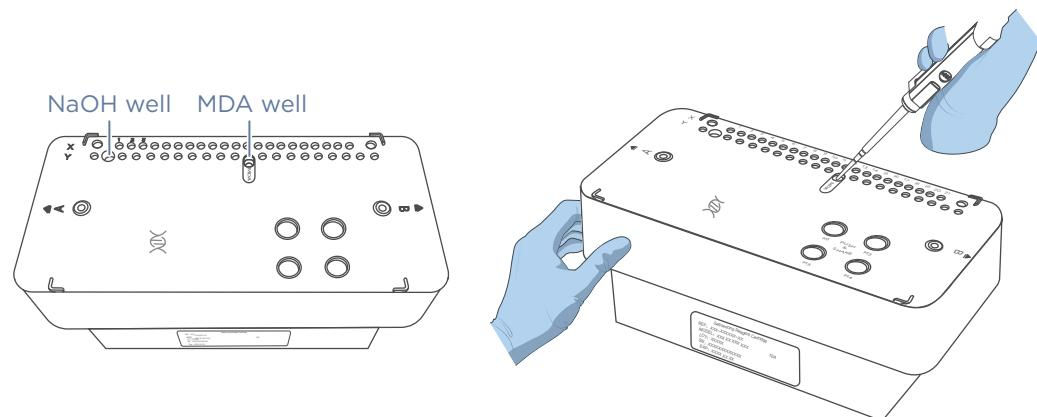

Figure 13 Adding MDA mixture
5. Pierce the seal of the MDA well by using a clean 1 mL sterile pipette tip. The position of the MDA well is shown in *Figure 13 on Page 64*.